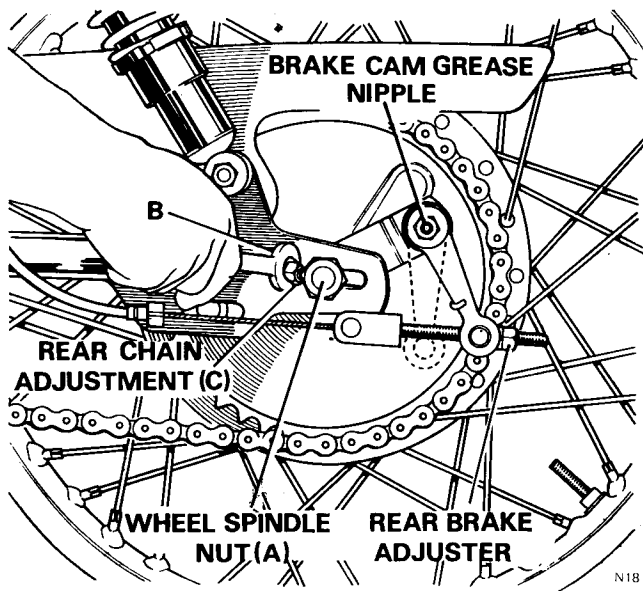

Fig. H4 Rear wheel features
- 3 Disconnect the rear brake cable rod by removing the adjuster nut (see Fig. H4) and pulling the rod through the brake expander lever roller.